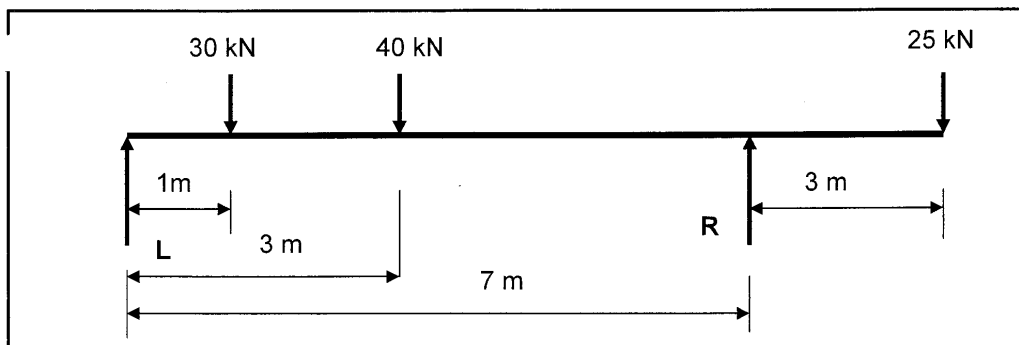

FIGURE 2
- 2.3 FIGURE 2 below shows a horizontal beam resting on two supports L and R. The beam carries a 30 kN load 1 metre from the left-hand end of the beam as well as a 40 kN force 3 metres from the left-hand end. The beam must also support a 25 kN load situated at the right-hand end of the beam 3 metres from the support R. L and R are 7 m apart. Ignore the weight of the beam.